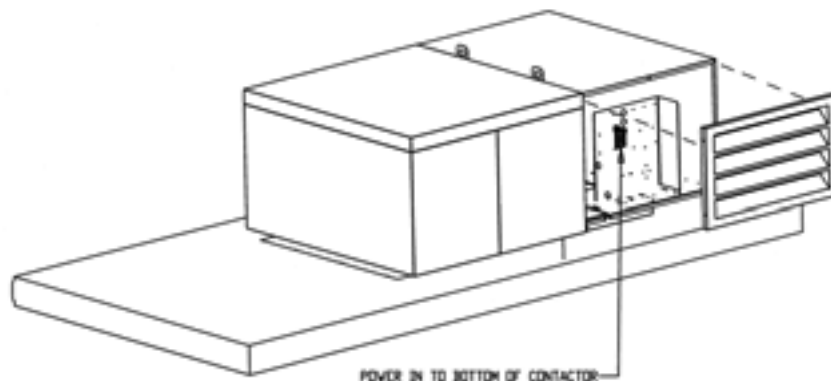

Figure 4: Power Hook-Up for Polar Pak Top-Mount Coolers and Freezers
- Locate electrical box inside condensing unit compartment (Refer to Fig. 4):